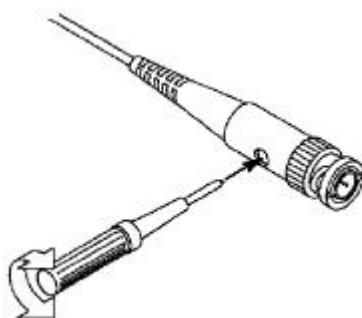

Figure 3-6: Probe Adjustment
- 2、 Check the displayed waveform and adjust the probe until the compensation is correct. See Figure 3-5, Figure 3-6.